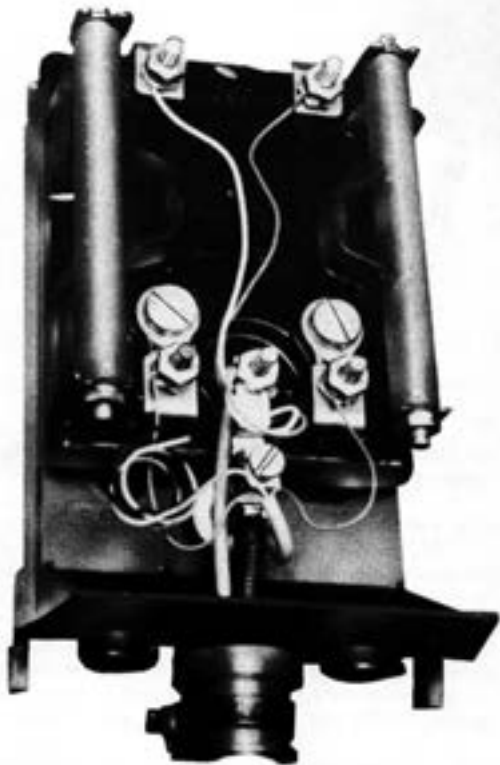

Fig. 43—#106C Protector in C Customer Service Closure
5.06 When the 106C protector is installed outdoors, use a C (Fig. 43) or D customer service closure. Where this combination is used to terminate buried service wire, mount the protector upside